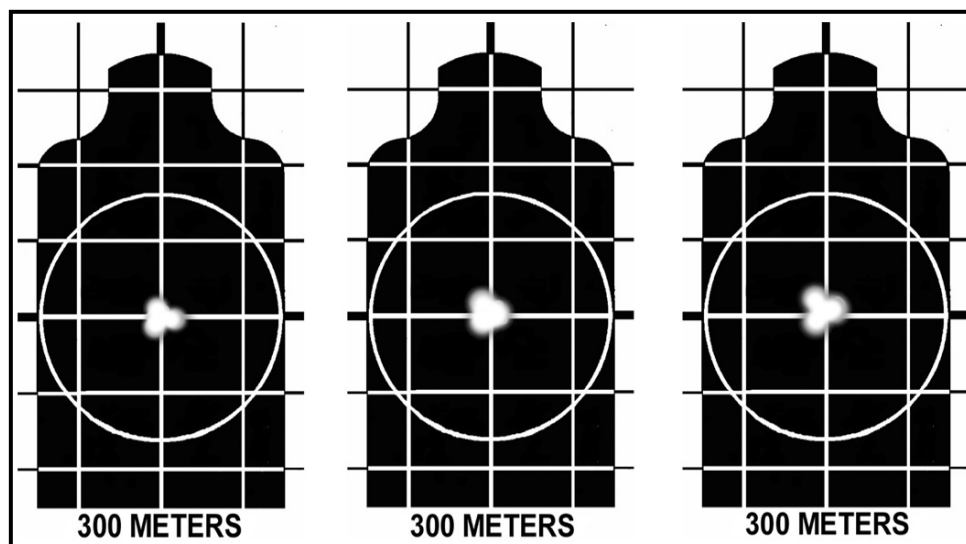

Figure 5-5. 25-meter match grade performance.
(1) **Match-Grade Performance.** The target shown in Figure 5-5 illustrates a match-grade quality rifle-ammunition combination, which places all bullets in almost the same hole, and helps detect the slightest errors of the firer.